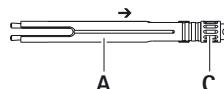

Fig. 2
- Pull back outer sleeve A as far as possible in the direction of fixing screw C, see Fig. 2.